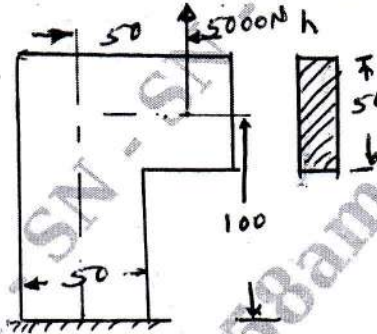

Fig.Q1(b)
b. Determine the required thickness of the steel bracket at section A-A, when loaded as shown in Fig.Q1(b) in order to limit the tensile stress to  $100 \text{ N/mm}^2$ . All dimensions are in mm.